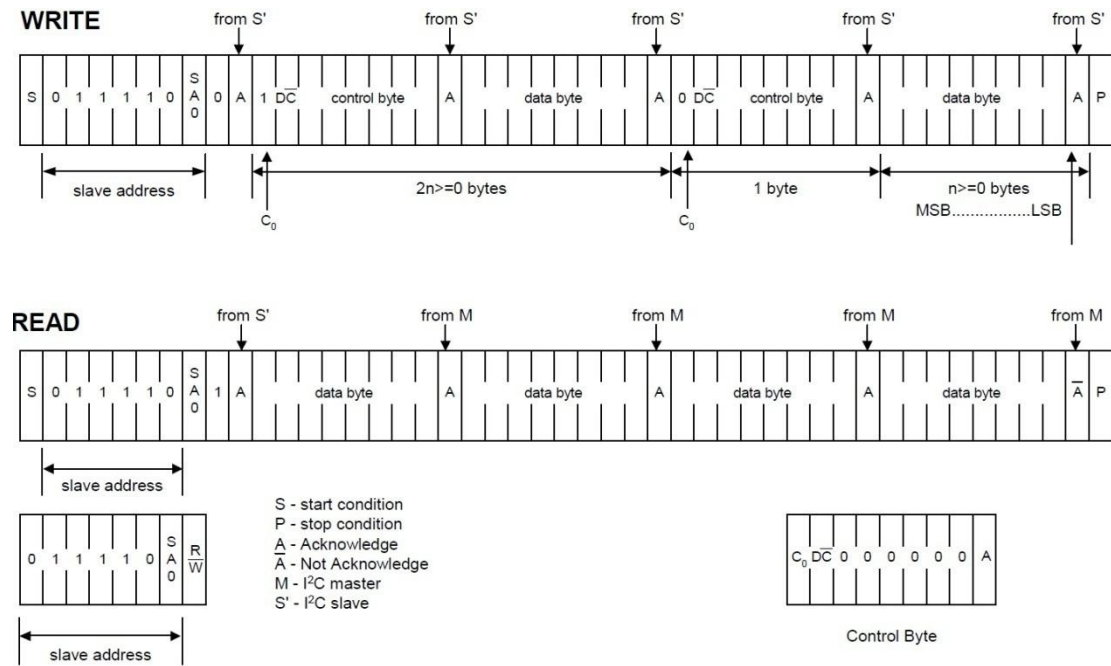

Figure 6: I2C Protocol
The SH1106 supports both read and write access. The R/W bit is part of the slave address. Before any data is transmitted on the I2C-bus, the device that should respond is addressed first. Two 7-bit slave addresses (0111100 and 0111101) are reserved for the SH1106. The least significant bit of the slave address is set by connecting the input SA0 to either logic 0(VSS) or 1 (VDD1). The I2C-bus protocol is illustrated in Figure 6: I2C Protocol. The sequence is initiated with a START condition (S) from the I2C-bus master that is followed by the slave address. All slaves with the corresponding address acknowledge in parallel, all the others will ignore the I2C-bus transfer. After acknowledgement, one or more command words follow which define the status of the addressed slaves. A command word consists of a control byte, which defines Co and D/C (note1), plus a data byte (see Figure 6: I2C Protocol). The last control byte is tagged with a cleared most significant bit, the continuation bit Co. After a control byte with a cleared Co-bit, only data bytes will follow. The state of the D/C -bit defines whether the data-byte is interpreted as a command or as RAM-data. The control and data bytes are also acknowledged by all addressed slaves on the bus. After the last control byte, depending on the D/C bit setting, either a series of display data bytes or command data bytes may follow. If the D/C bit was set to '1', these display bytes are stored in the display RAM at the address specified by the data pointer. The data pointer is automatically updated and the data is directed to the intended SH1106 device. If the D/C bit of the last control byte was set to '0', these command bytes will be decoded and the setting of the device will be changed according to the received commands. The acknowledgement after each byte is made only by the addressed slave. At the end of the transmission the I2C-bus master issues a stop condition (P). If the R/W bit is set to one in the slave-address, the chip will output data immediately after the slave-address according to the D/C bit, which was sent during the last write access. If no acknowledge is generated by the master after a byte, the driver stops transferring data to the master.